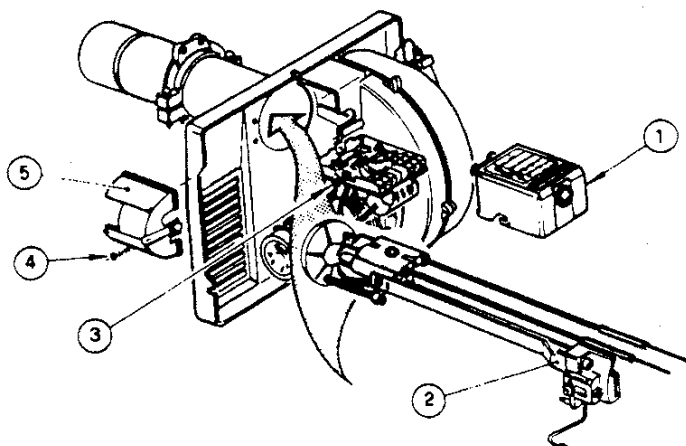

Figure 5: Installation/Removal of Riello Drawer Assembly
- n. Swing igniter closed, rotate tabs and tighten two (2) igniter screws.
- a. Installation/Removal of Drawer Assembly, refer to Figure 5.
- Loosen SCREW (3), and then unplug PRIMARY CONTROL (1) by carefully pulling it back and then up.
- Remove the AIR TUBE COVER PLATE (5) by loosening the retaining SCREW (4) (Two SCREWS-Model F5).
- Loosen SCREW (2), and then slide the complete drawer assembly out of the combustion head as shown.